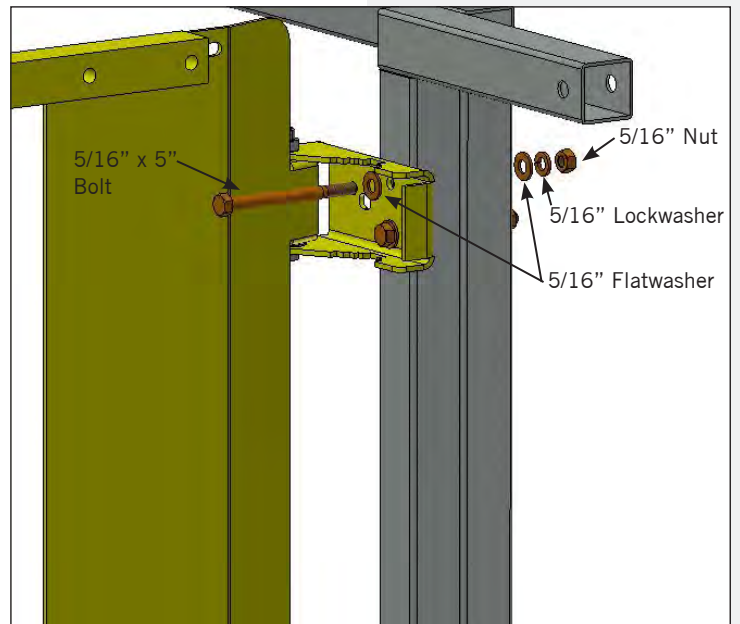

Figure 60. Top Perimeter Guardrail Safety Gate Attachment
5. Install the safety gate(s) using the 5/16" x 5" bolts provided. See **Figure 60**.